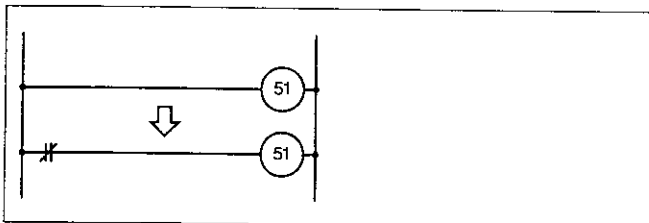

Figure 14.3
- c. An output (including timer/counter) cannot be assigned without an input condition (Figure 14.3 upper part: not allowed assignment, figure 14.3 lower part: allowed assignment).